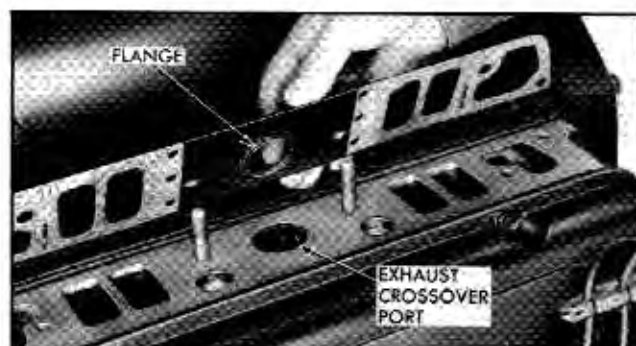

Fig. 6-15 Installing Intake Manifold Gasket
1. Install new gasket on each cylinder head so that flange of metal center section of gasket fits into exhaust crossover port of head (Fig. 6-15).